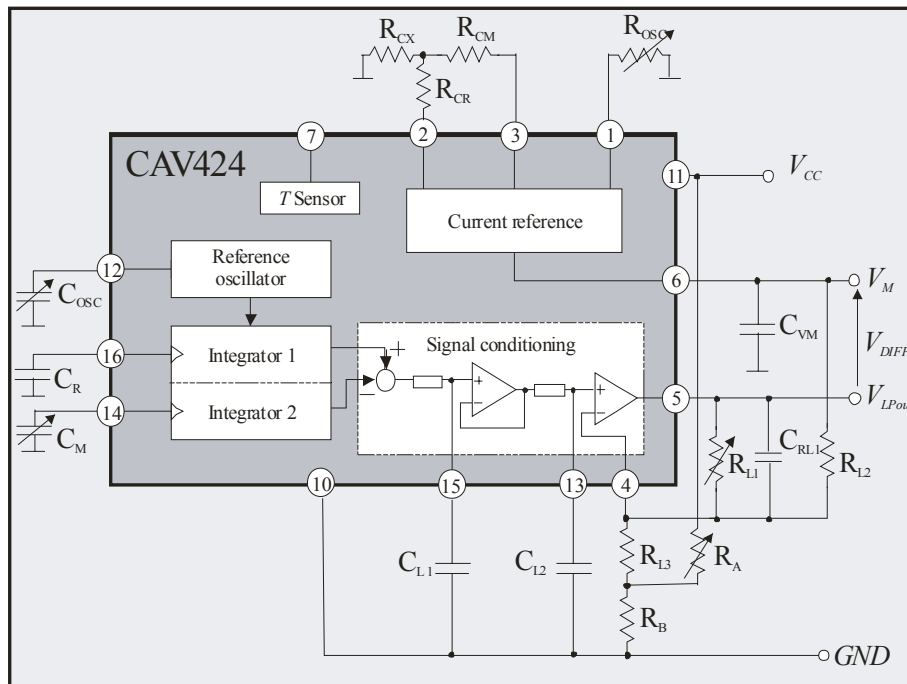

Figure 7: Functional diagram for CAV424 (with charging currents I_{CM} and I_{CR} constant)
* The equations apply to $R_{CX} = 0$ (see *Figures 7* and *8*). Should $R_{CX} \neq 0$ for the resistor due to better thermal coupling, alternative calculations are provided in the Excel spreadsheets *Kali1_cav424.exc* and *Kali2_cav424.xls*.
Figure 7 assumes that the charging currents I_{CM} and I_{CR} are constant. This means that with a change in the basic value of the measurement capacitance $C_{M,min}$ (as is the case when different objects are measured, for example) the oscillator frequency must be adjusted to the new measurement with the alternate $C_{M,min}$ value.